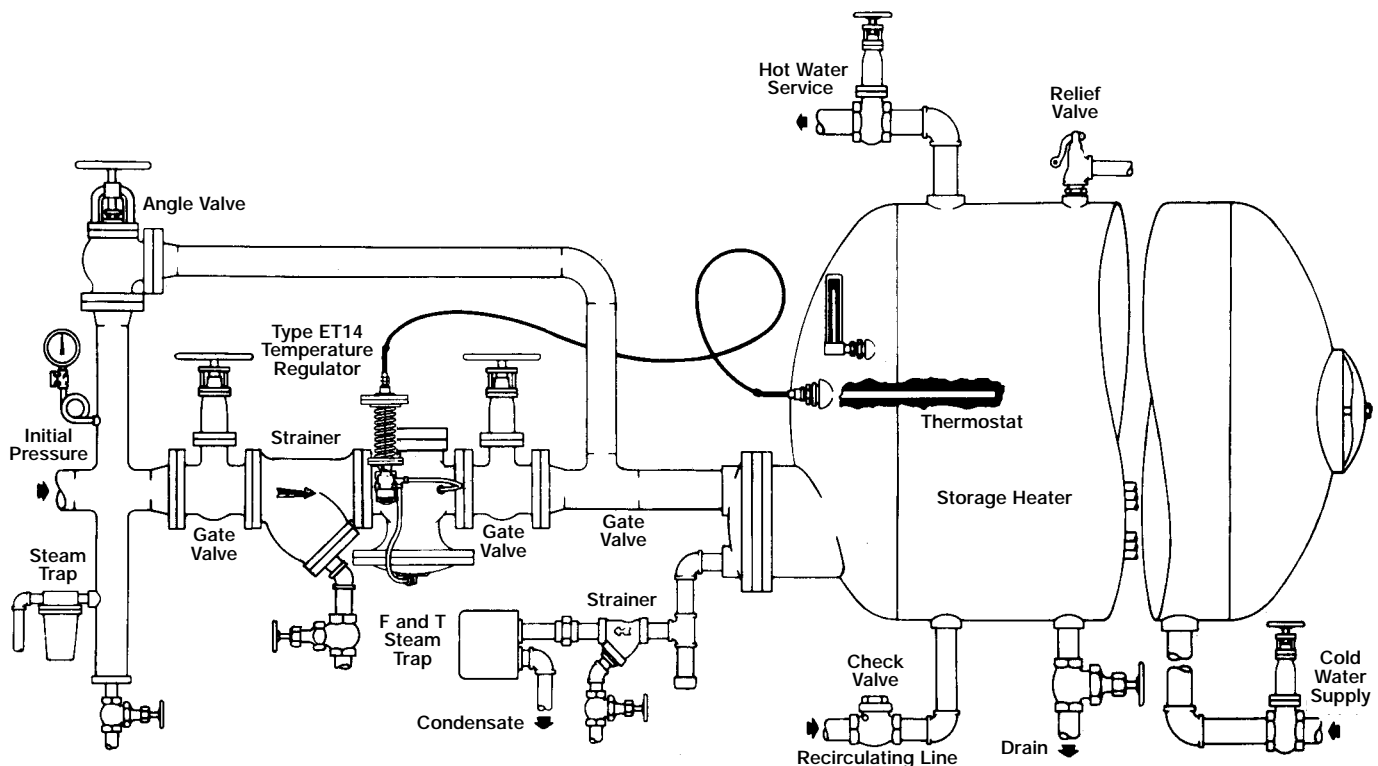
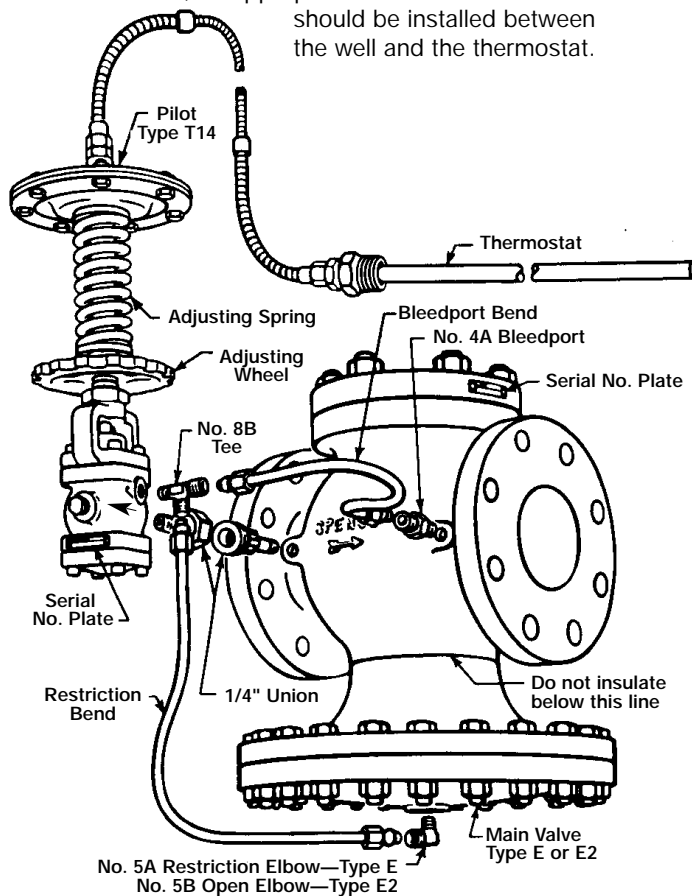
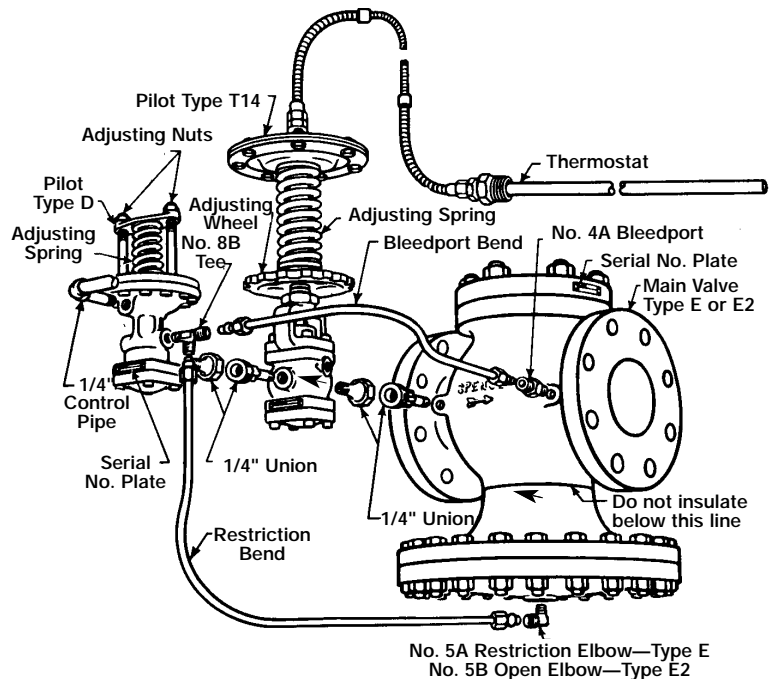

FIGURE 1
FIGURE 2
FIGURE 3
When steam is turned on, it flows to the pilot through the connecting nipple and union (see Fig. 1). At the No. 8B tee on the pilot outlet, the flow divides. One branch is connected to bleedport No. 4A and the other to restriction elbow No. 5A and the underside of the main valve diaphragm. Bleedport No. 4A restricts the flow, builds pressure under the diaphragm and opens the main valve. Restriction No. 5A steadies the operation of the regulator.
Mount the pilot on either side of the main valve by means of 1/4 inch nipple and union provided. Make this connection the 1/4 inch pipe tap at the inlet side of the main valve as shown in Figure 2.
Connect tubing bends as illustrated in Fig. 2. Valves with condensation chamber are fitted up according to Figure 3.
Use 1/4 inch pipe for this line which connects the pilot pressure diaphragm chamber (Fig. 2) to the desired point of pressure control. On instantaneous heaters with steam in shell, tap the control pipe into the shell. Otherwise, enter the delivery steam pipe at point of entrance to heater. Pitch the control pipe away from the pilot and avoid water pockets. Insulation may be applied to the upper portion (globe and flanges) of the main valve. Do not insulate the diaphragm chamber or any part of the pilot (Fig. 1).
**For ET14:** Close bypass and open outlet stop valve. Blow down strainer. Gradually open inlet stop valve. Turn temperature adjusting wheel (Fig. 1) to obtain desired control temperature.
**For ET14D:** Close bypass, open 1/4" control pipe valve and turn up the temperature adjusting wheel (Fig. 1) until 1/2" of thread is exposed. Back off pressure adjusting screw to remove all compression from D Pilot adjusting spring.